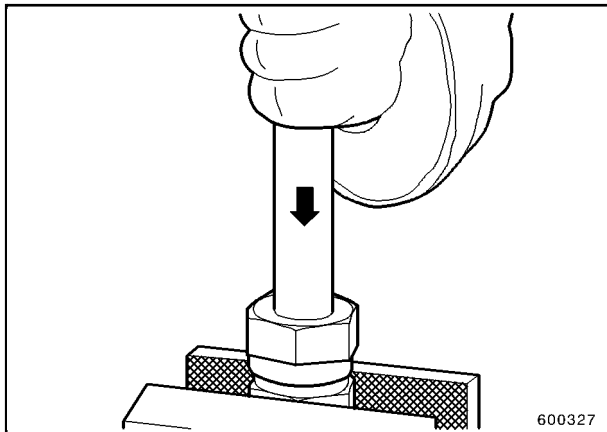

Fig. 7
4. Push pipe into inner cone of coupling body until it lies up against shoulder end stop (Fig. 7).